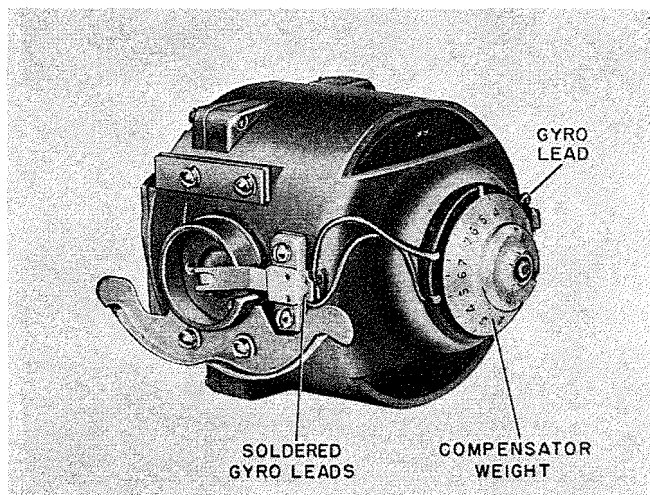

Figure 32A
a. Unsolder the three gyro leads (figure 32A).